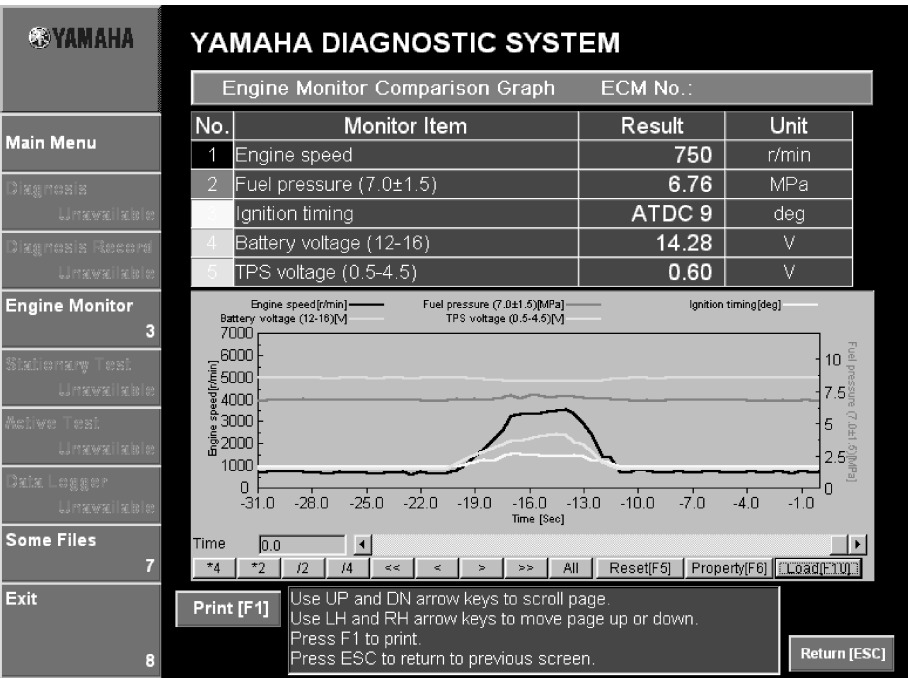

Fig. 38
5. The program displays the selected graph data. (Fig. 38)